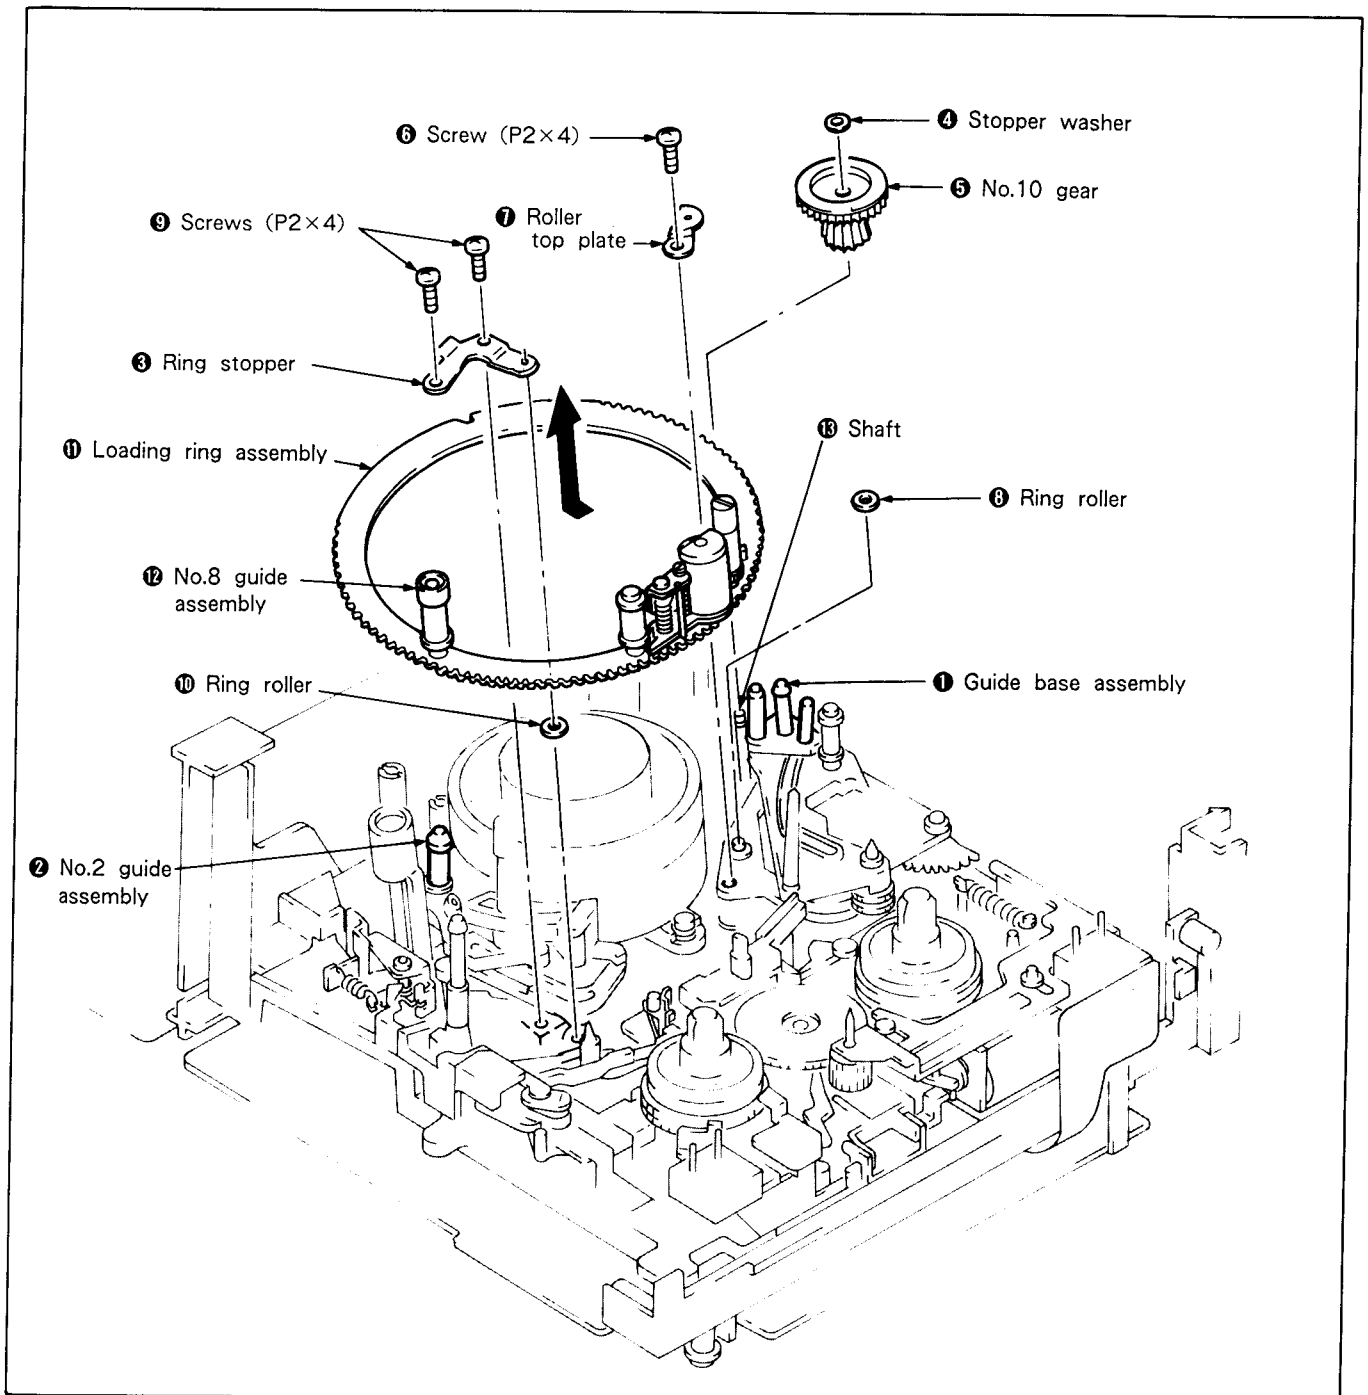

Fig. 7-12.
#### 1. Removal (See Fig. 7-12.)
- 2) Remove the loading ring assembly according to 7-3-7. 1. Removal. (See Fig. 7-12.)
- 3) Remove screw ❶ and E ring ❷.
- 4) Remove the slant guide block assembly ❸.
- 5) Mount the loading ring assembly according to 7-3-7. 2. Mounting. (See Fig. 7-12.)